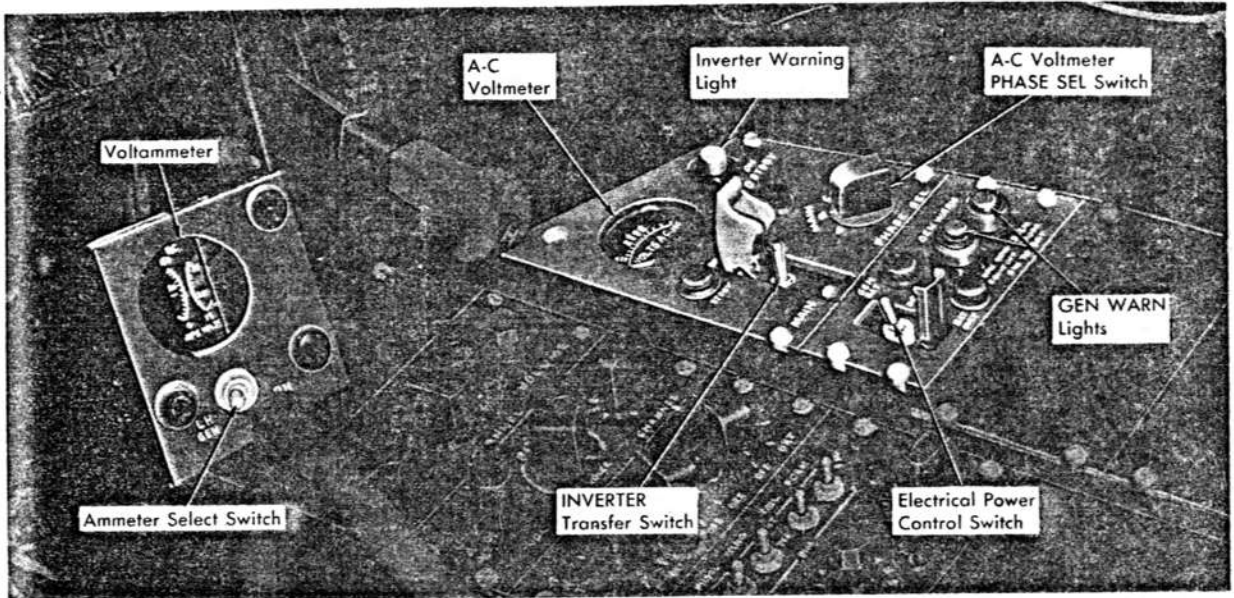

Figure 1-10. D-C and A-C Electrical System Controls and Instruments
**ELECTRICAL POWER CONTROL SWITCH.** The electrical power control switch (figure 1-10) is located
**AMMETER SELECT SWITCH.** The ammeter select switch (figure 1-10) is located just below the voltammeter on the right-hand console. The switch positions are labeled "LH GEN" and "RH GEN." Placing the switch in either position connects the ammeter side of the voltammeter to the generator selected.
**VOLTAMMETER.** The voltammeter (figure 1-10) on the right-hand console indicates right-hand console primary bus voltage and generator output current. The ammeter side of the voltammeter gives the output current for the generator selected by the ammeter select switch.
**GENERATOR WARNING LIGHTS.** The two red GEN WARN lights (figure 1-10) are located on the right-hand console. Each light illuminates when the corresponding generator output voltage drops below the primary bus voltage.
**INVERTER TRANSFER SWITCH.** The INVERTER transfer switch (figure 1-10) is located on the right-
**A-C VOLTMMETER PHASE SELECTOR SWITCH.** The a-c voltmmeter PHASE SEL switch (figure 1-10) is located on the right-hand console. It is a five-position rotary switch and is used for selecting the main or stand-by inverter phase to be indicated by the a-c voltmmeter. The five positions are "MAIN A," "MAIN B," "MAIN C," "STDBY A," and "STDBY C."
**A-C VOLTMMETER.** The a-c voltmmeter (figure 1-10) indicates main or stand-by inverter phase voltage according to the position of the PHASE SEL switch. Phase voltages should be approximately 115 volts when each inverter is running.
**INVERTER WARNING LIGHT.** When the red inverter warning light (figure 1-10) comes on, it indicates that the main inverter has failed to produce enough voltage to keep the inverter warning relay energized. The light will go off when the INVERTER transfer switch is placed in "STDBY."